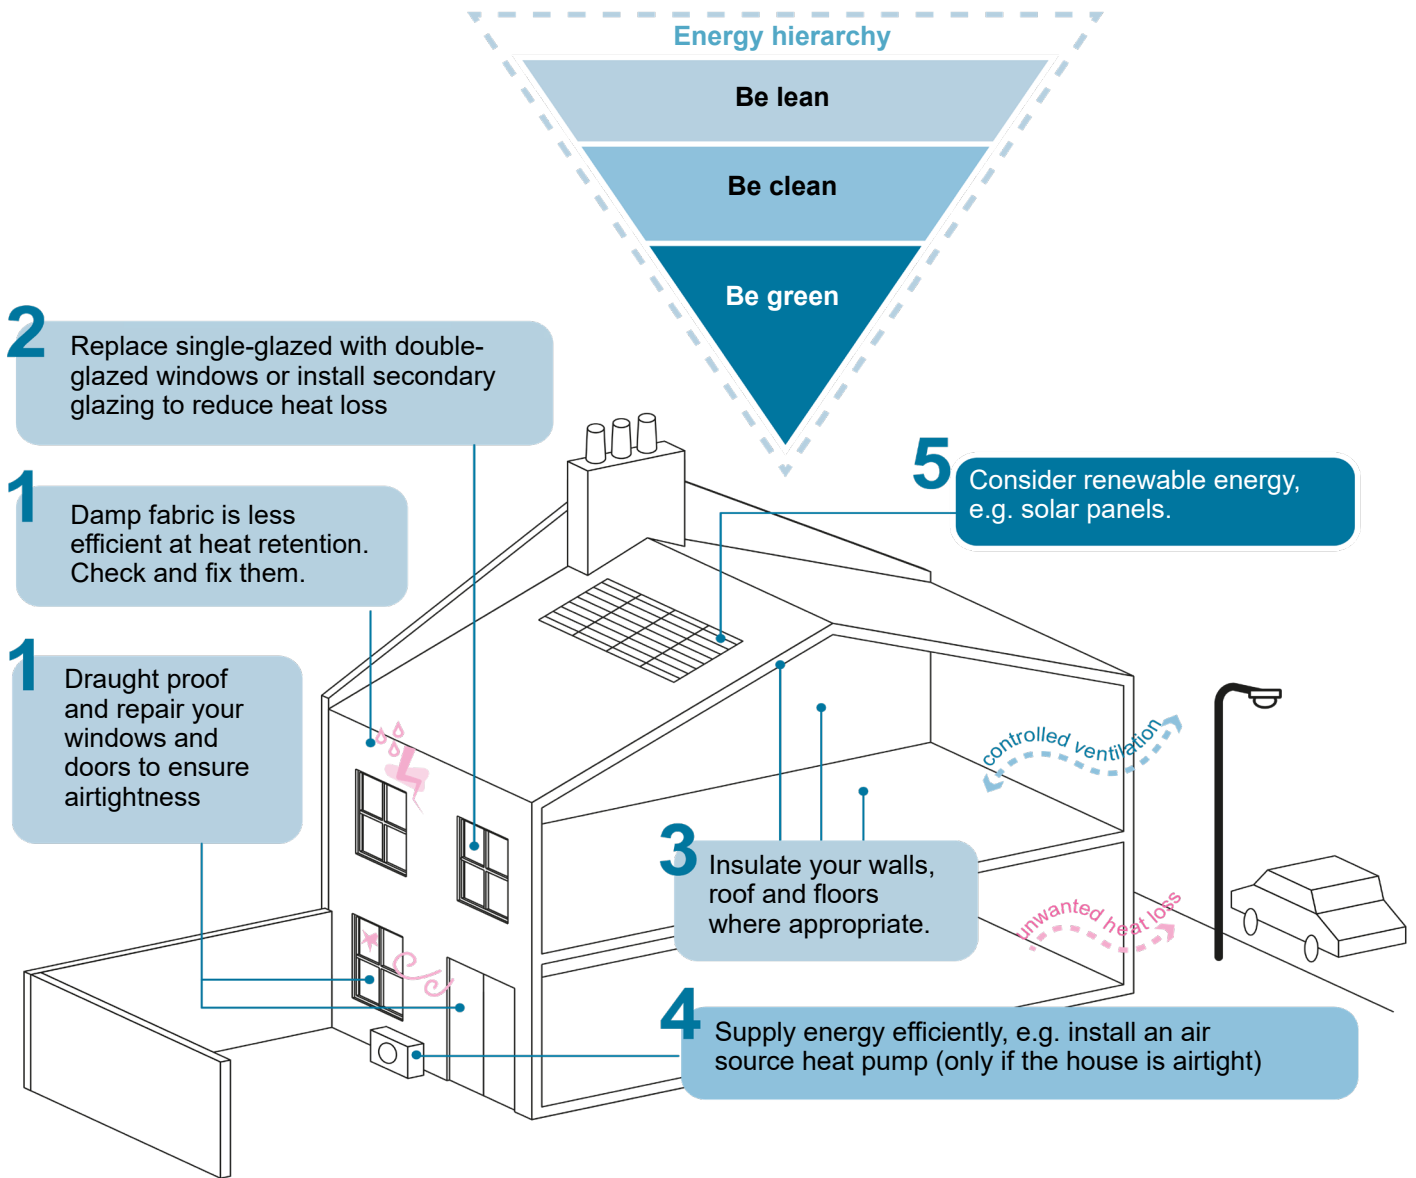

Figure 3: Illustrative diagram of the Whole Building Approach
**Figure 3** on the next page demonstrates a Whole Building Approach to improving your home. The approach shows which parts of your home to consider first. This ranges from small fixes such as draught and damp proofing to larger interventions. Often the small fixes can be a simple and cost-effective way to improve the thermal performance and energy efficiency of your home. This can also help make your home more resilient to the effects of a changing climate.